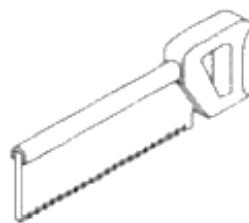

Figure 10
- 31 (a) **Figure 10** below shows one of the tools commonly used in the Design and Technology workshop.